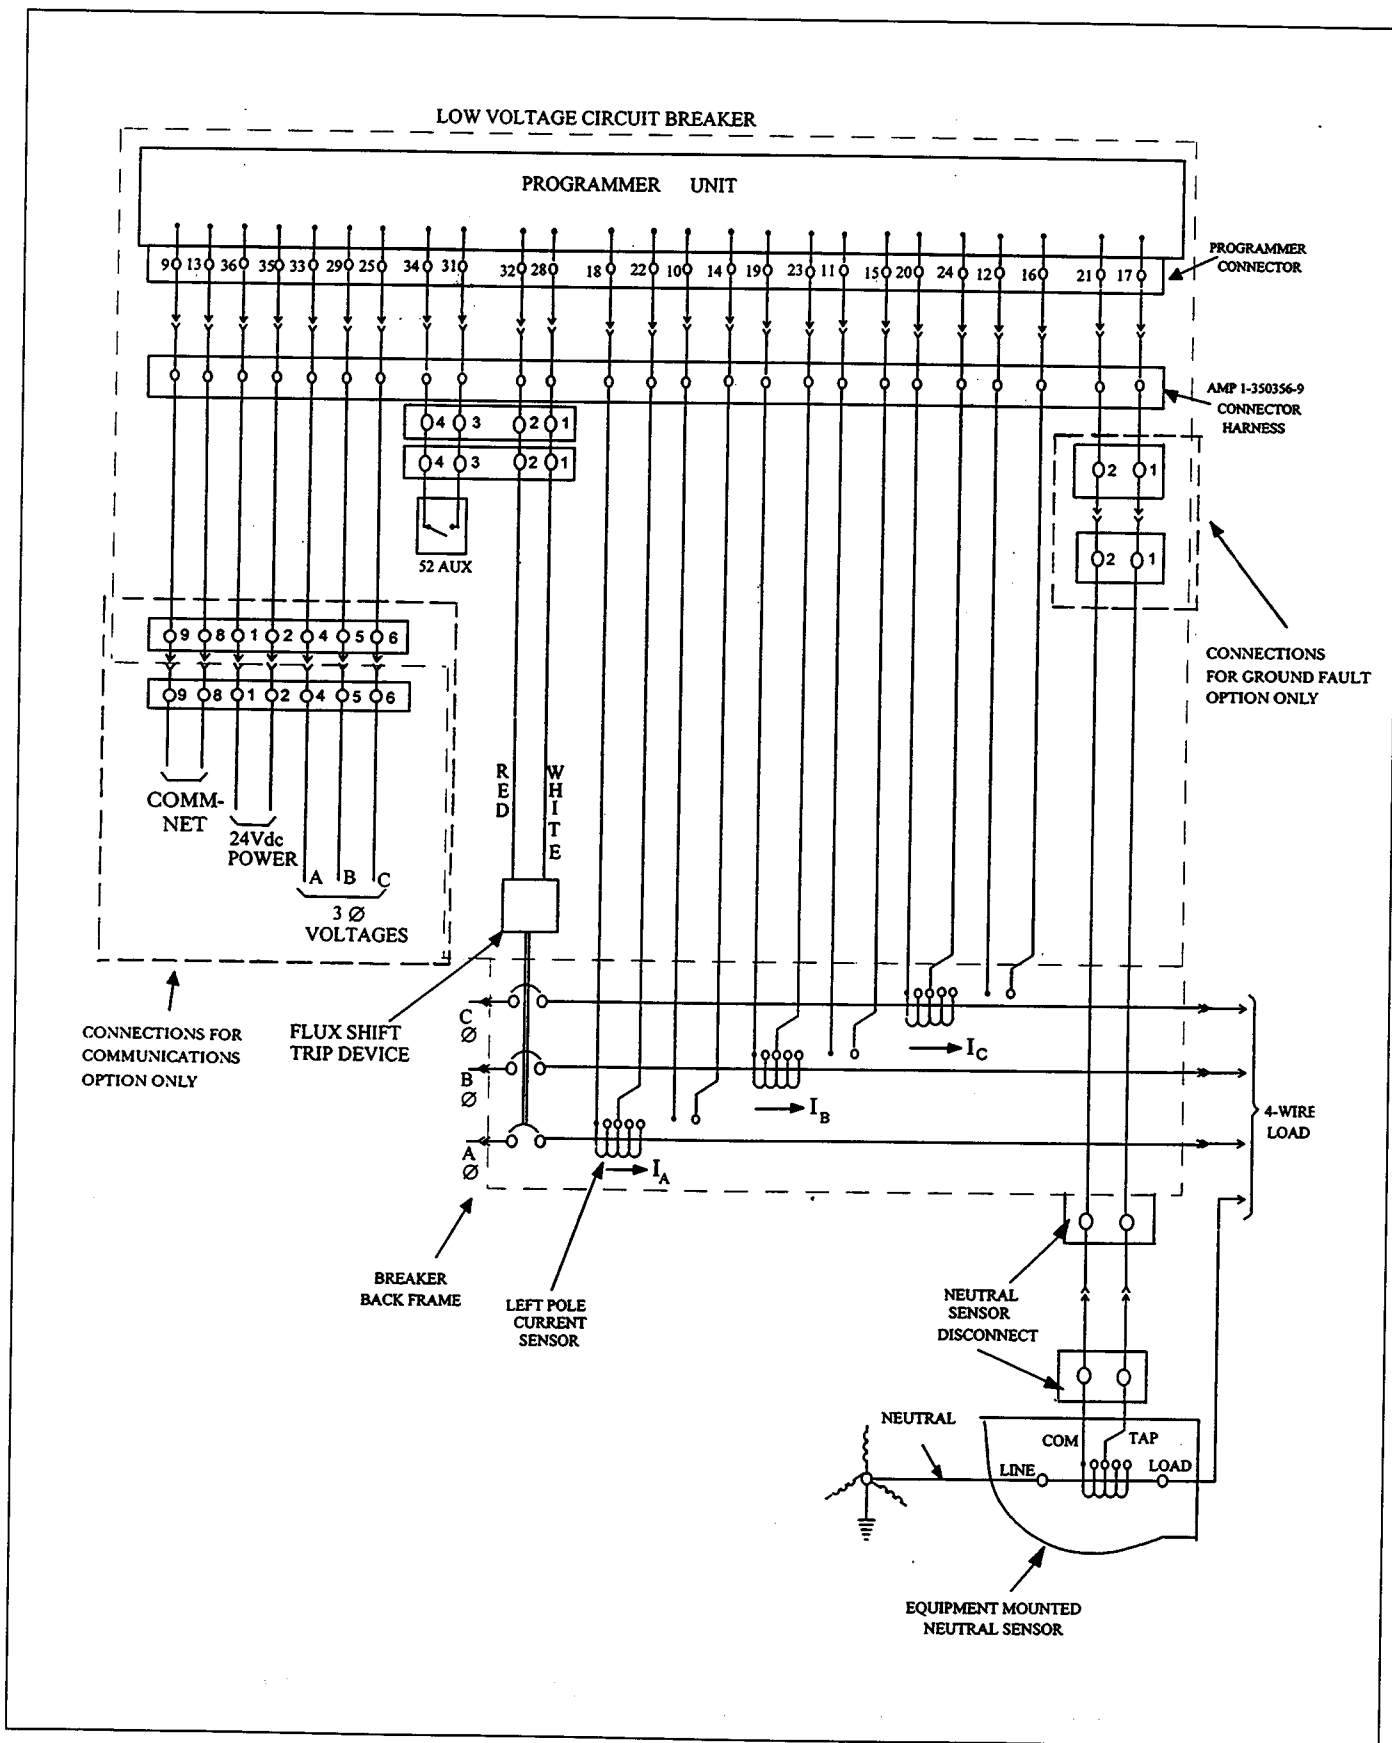

Fig. 8-1. Cabling Diagram MicroVersaTrip PLUS and PM with Ground Fault on 4-Wire Load
On ground fault breakers serving four-wire loads, check that the neutral sensor is properly connected. See cabling diagram Fig. 8-1. In particular, the following:
- C. If the breaker's lower studs connect to the supply source, then the neutral sensor must have its load end connected to the source. See Fig. 8-1.